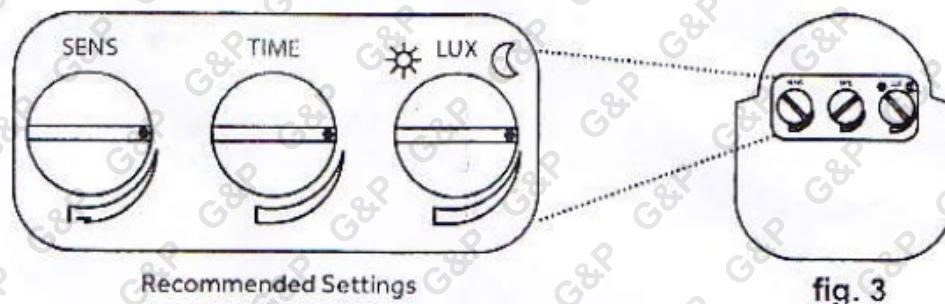

fig. 3
3. Turn the light off at the red switch and leave it to recharge for 5 days. Set the dial as in fig.3